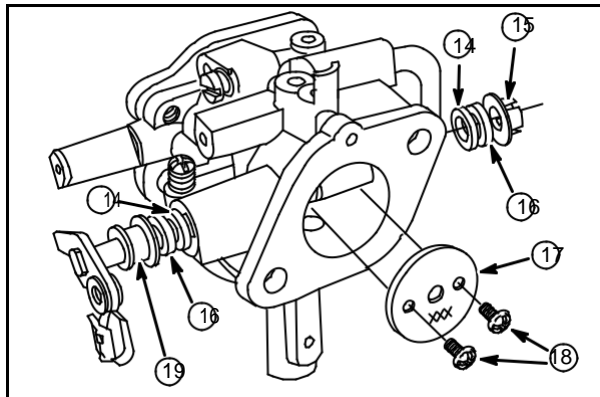

Fig. 47
Remove two screws (18) and the throttle plate (17), **Fig. 47**.